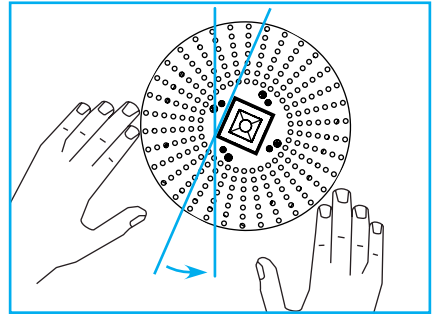
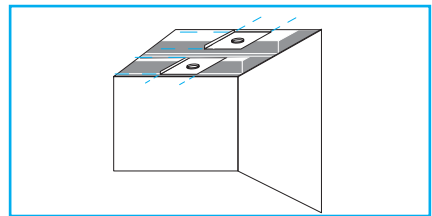

Fig.5
Fig.6
**Important:** Square fixture installations require final alignment. Utilize string line or laser line to obtain uniform or desired alignment between multiple fixtures or in relation to parallel planes (Fig.5). Verify correct housing aperture position using laser or string line, referencing edges of housing (Fig.6).